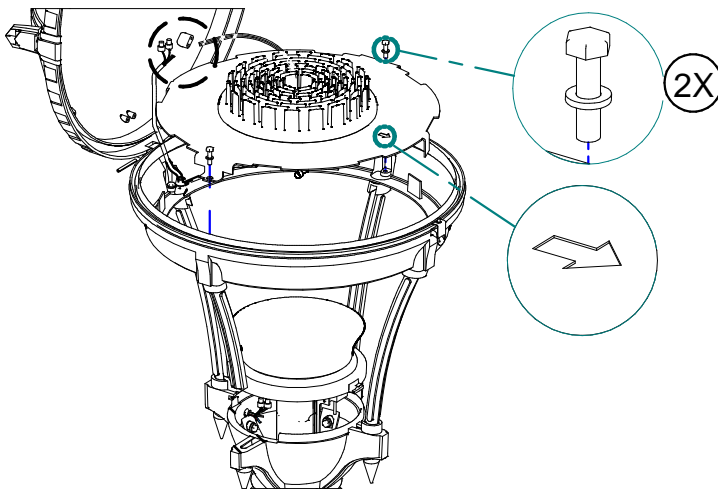

FIG. 6-1
3. Install Light Engine assembly using (2X) supplied 1/4-20 x 1" screws (FIG 6-1).